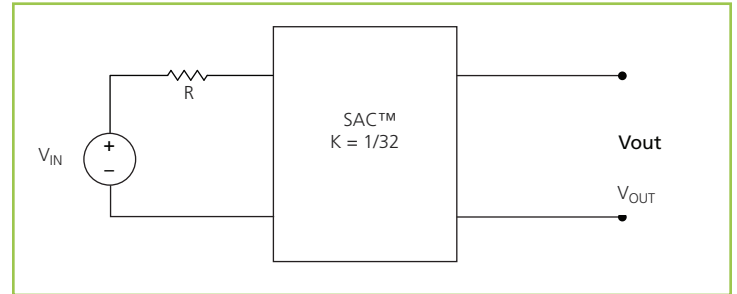

Figure 15 — $K = 1/32$ Sine Amplitude Converter™ with series input resistor
interesting attributes. Assuming that $R_{OUT} = 0 \Omega$ and $I_Q = 0 A$, Eq. (3) now becomes Eq. (1) and is essentially load independent, resistor R is now placed in series with V_{IN} as shown in Figure 15.
Assuming that $R = 1\ \Omega$, the effective R as seen from the secondary side is $0.98\ m\Omega$, with $K = 1/32$ as shown in Figure 15.